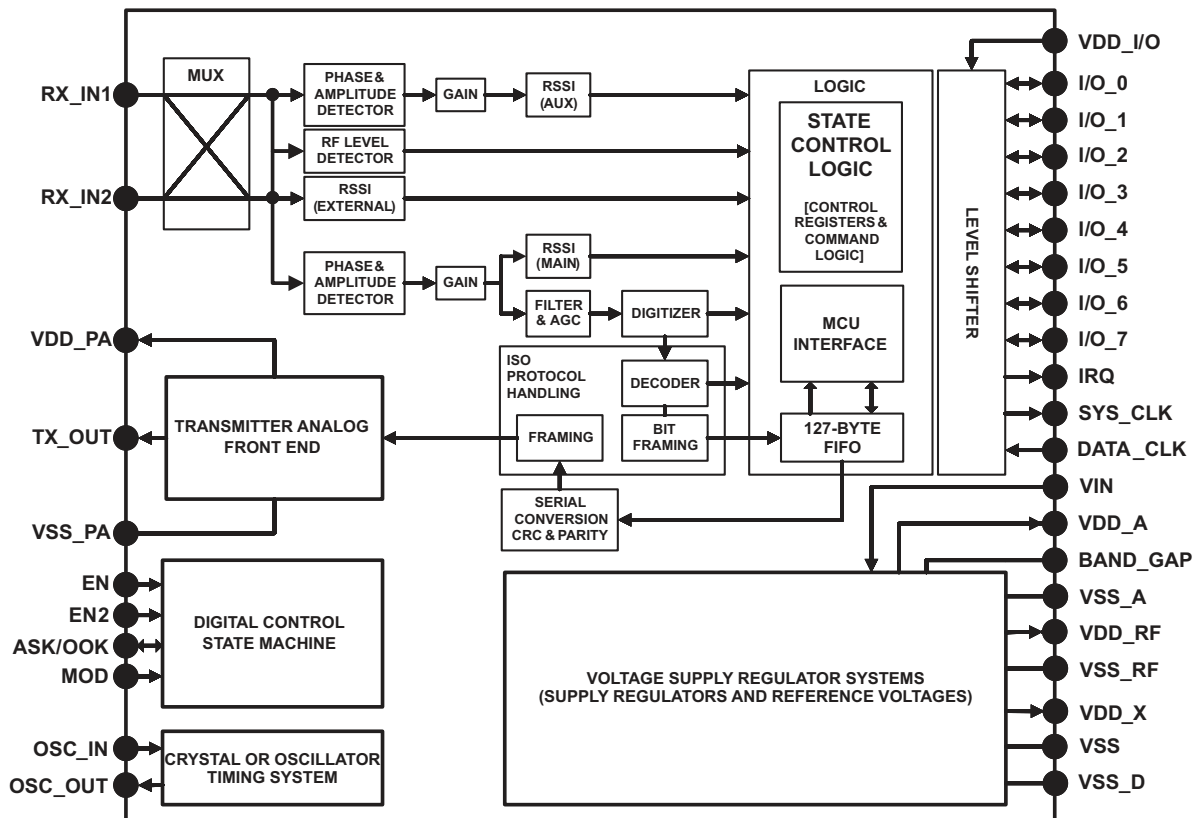

Figure 1-1. Block Diagram
Figure 1-1 shows the block diagram.
• Changed <a href="#">Figure 1-1</a> to show 127-byte FIFO.....	<a href="#">2</a>